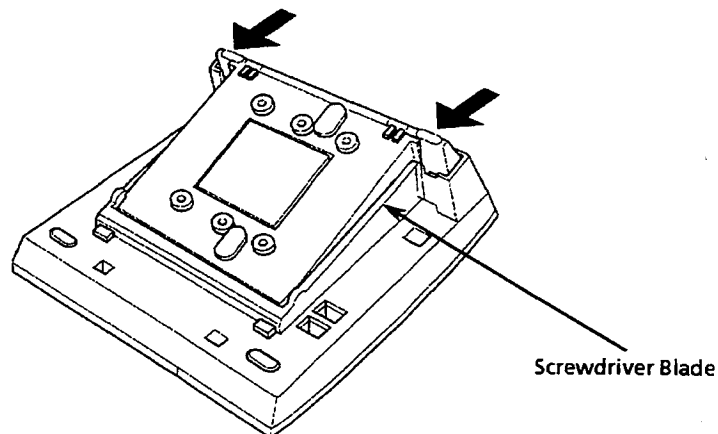

Figure 4-40 Unlatching the Cover on the Digital Multiline Terminal
3. Unlatch the cover by pressing the areas indicated in Figure 4-40 Unlatching the Cover on the Digital Multiline Terminal. Using a straight blade screwdriver, press the blade between the cover and the base to release the tabs.